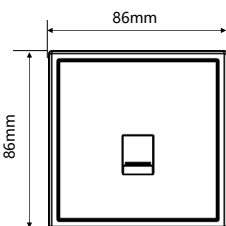

Figure 2. Dimensions-Front view
**Dimensions - See Figure 2 - 3**